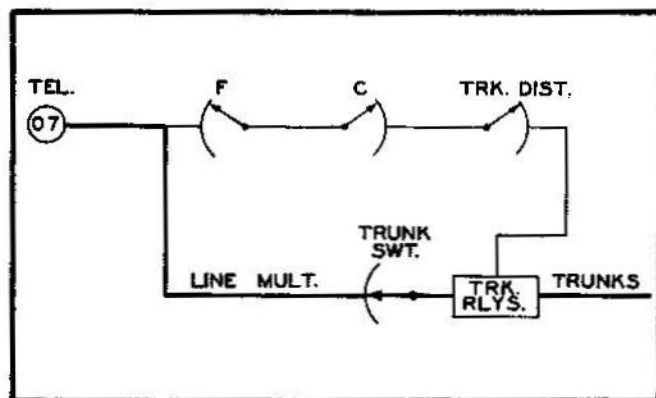
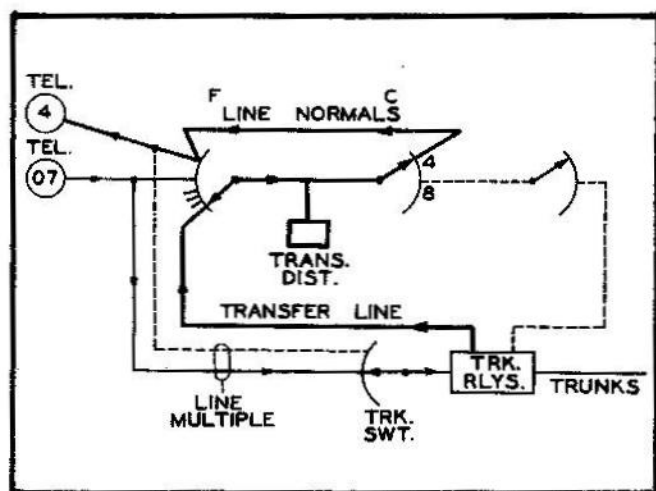
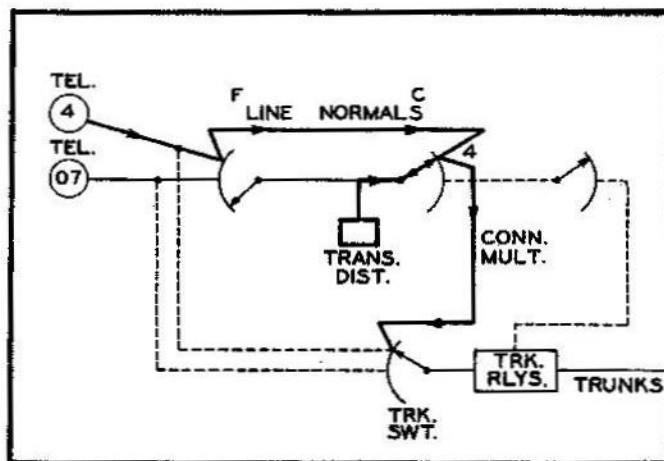

FIG. 24. PATH OF TRUNK CALL IN A 33Ab-A P-A-B-X
FIG. 25. SUBSCRIBER "07" TRANSFERS TRUNK CALL TO "4" BY CAUSING FINDER "F" TO SEIZE A TRANSFER LINE AND BY DIALING "4"
FIG. 26. SUBSCRIBER "4", REQUESTED TO TAKE CALL, CAUSES TRUNK SWITCH TO FIND HIS CONNECTOR MULTIPLE
To transfer call (Fig. 24), station 07 (Fig. 25) presses button on telephone and dials number desired. Pressing button places a holding bridge in trunk relay group across the public exchange trunk and marks this trunk in the finder switch banks, via the transfer line circuit. There is one transfer line circuit for each trunk. Each transfer line circuit is assigned one contact on the finder. The finder wiper now locates the transfer line associated with the trunk to be transferred. This stage of the operation is shown in Fig. 26.
shows this stage which is similar to Fig. 24. Additional transfers are made in a like manner.
11.12 and 11.21 for non-restricted stations. The method of transfer over the two attendant's lines is described in Section 11.21 and resembles the steps shown in Figs. 25, 26, and 27.